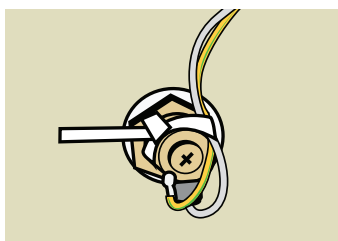

Figure 118
- All four LED lights, two on each side, (if equipped with Underwater lights). See Figure 118.